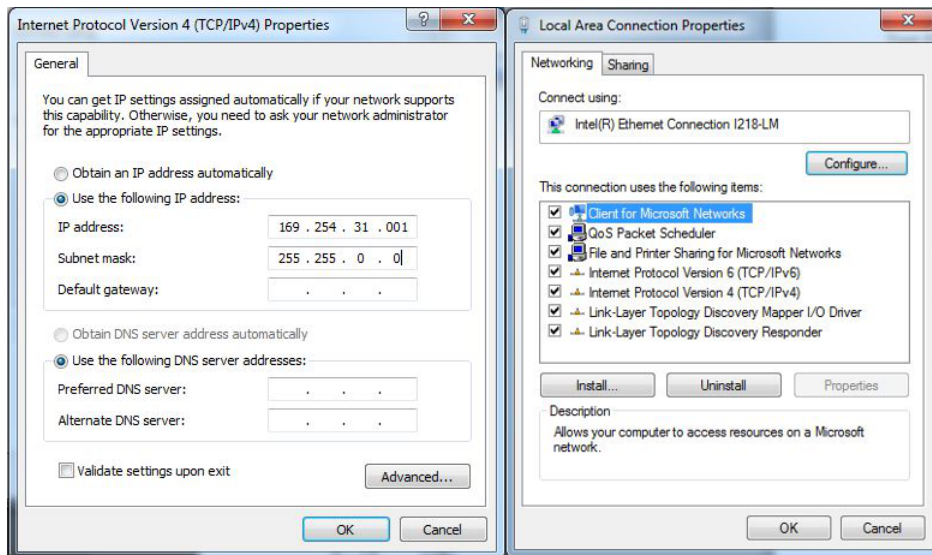

Figure 12. Assigning the IP Address
- Assigning the IP address to PC Ethernet port (Figure 12):